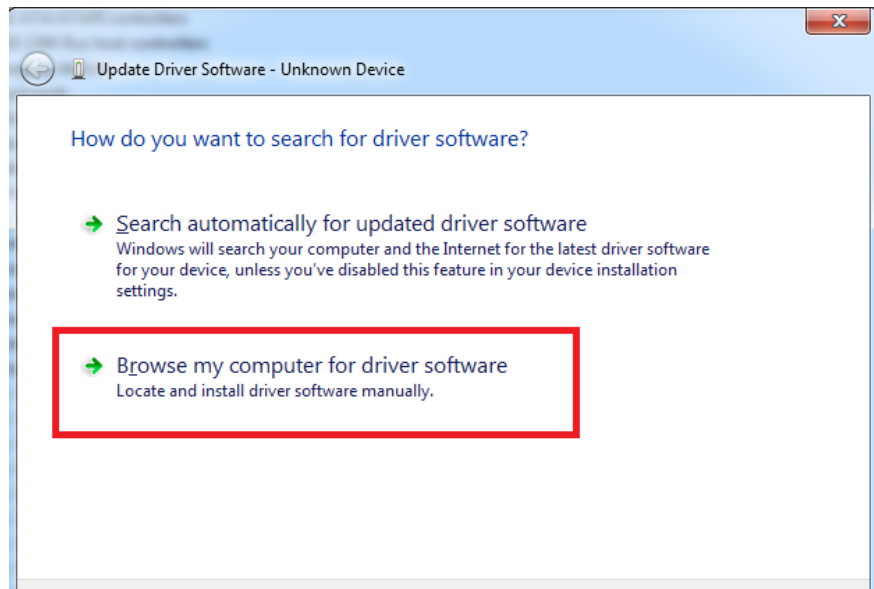

Fig. 6. Device driver software update message
- Press “Update driver software”; screen as in Fig. 6. should appear: